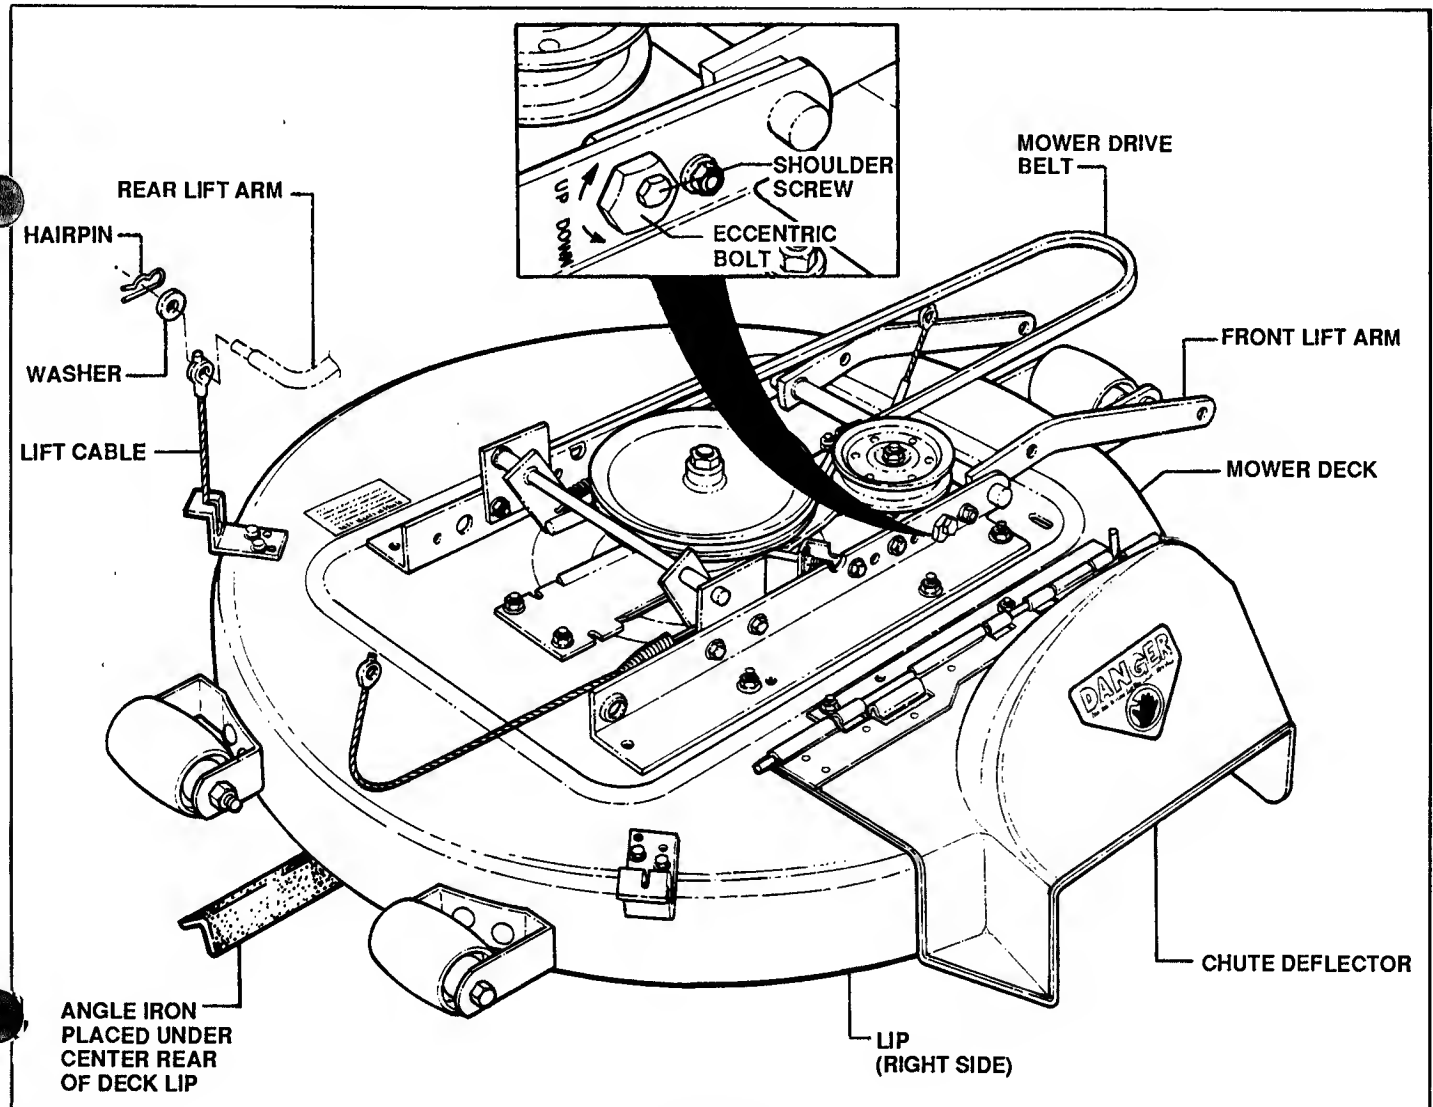

FIGURE 31
- (1) Place a piece of angle iron under lip at center rear of deck. See Figure 31.
- (2) Pull the pins and remove the CABLES from the REAR LIFT ARMS.
- (3) Measure distance between deck lip (at center of left side) and the floor surface. Compare to the distance from right side deck lip to floor.
- (4) If required, adjust side-to-side level of mower deck by loosening SHOULDER SCREW on side of lift arm ECCENTRIC BOLT. See Figure 31.
- (5) Turn the ECCENTRIC BOLT "UP" or "DOWN" to level deck within 1/8" side-to-side.
- (6) When deck is level, tighten SHOULDER SCREW.
- (7) Re-attach CHAINS to REAR LIFT ARMS.
- (8) If either CHAIN is slack, adjust EYEBOLT until both CHAINS have equal tension. Recheck deck level. See Figure 31.